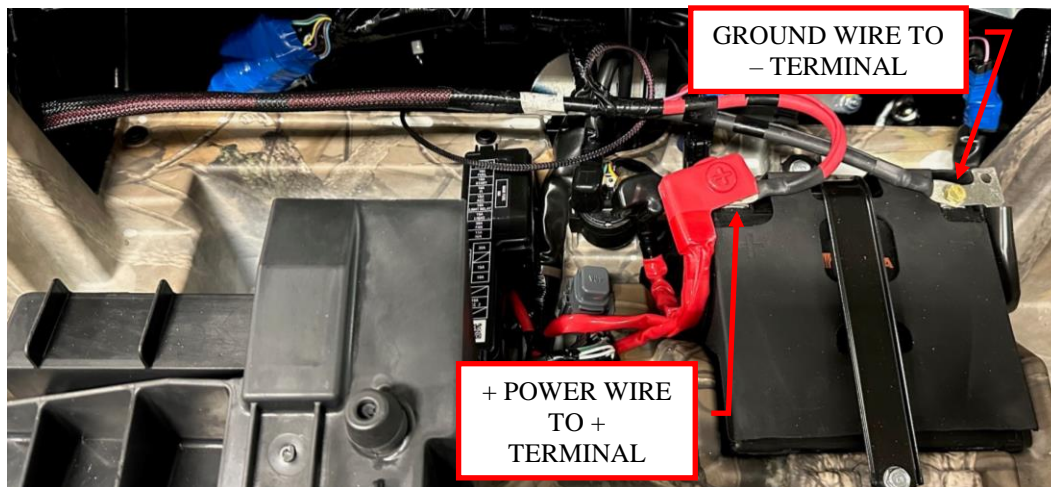

Figure 19: Attach the main power / ground wire.
15. Connect the red power wire to the positive terminal of the battery. Connect the black ground wire to the negative terminal of the battery. Use the supplied M6 x 20mm bolts and washers in place of the factory hardware. You may need to use two washers per bolt if the bolt bottoms out on the battery terminal before it tightens the cables. See Figure 19.